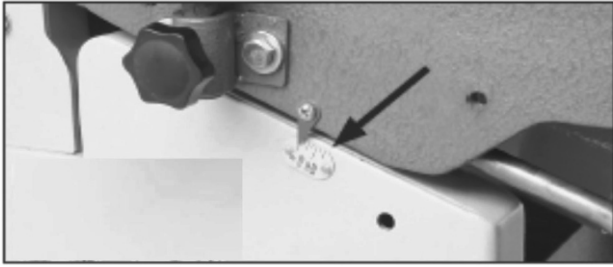

Figure 45. Depth scale adjusted to “0” position.
4. Using a screwdriver, adjust the scale pointer to zero (**Figure 45**).